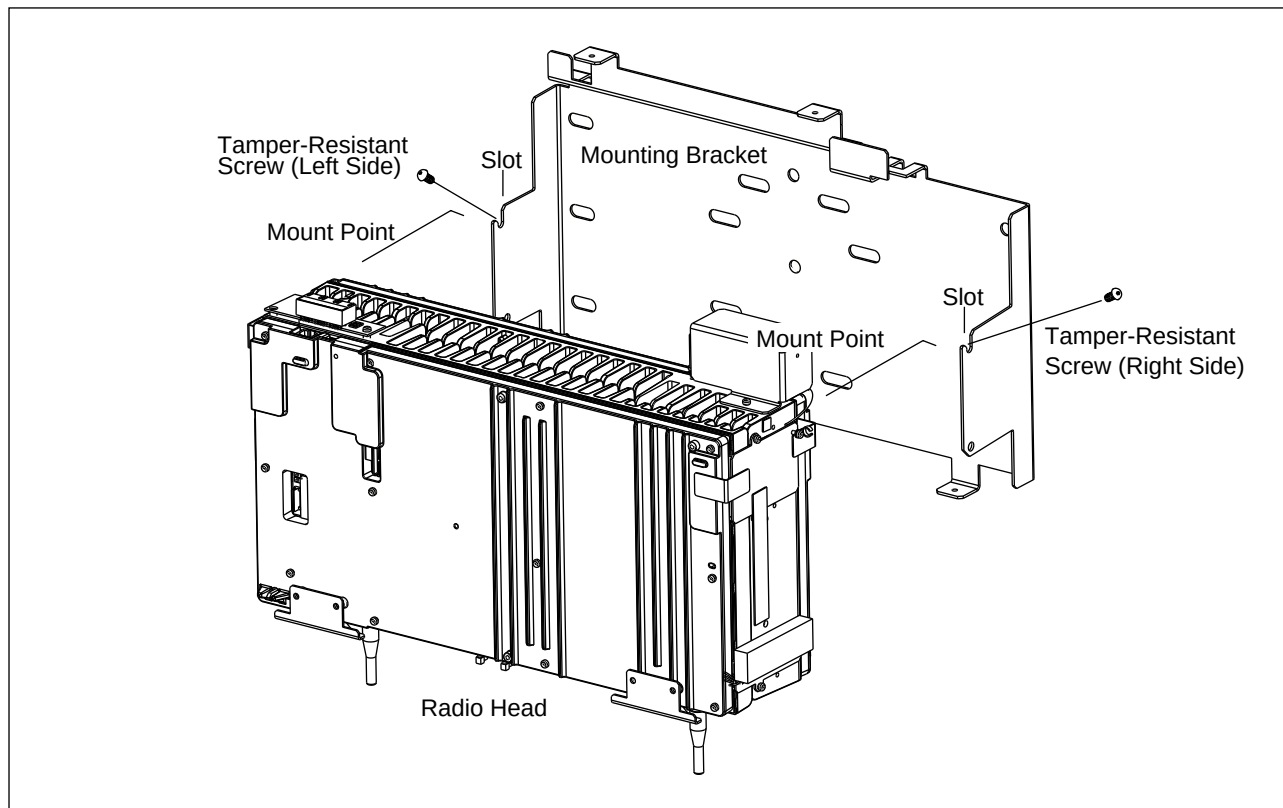

Figure 6-19. Attaching Radio Head to Mounting Bracket
13. Install, but do not tighten, one tamper-resistant screw in top hole on each side of the Radio Head. Leave a sufficient gap between the screw and the Radio Head to allow the screw to slip into the notch on the mounting bracket. See Figure 6-19 on page 6-48 for the location of the top holes on the Radio Head.